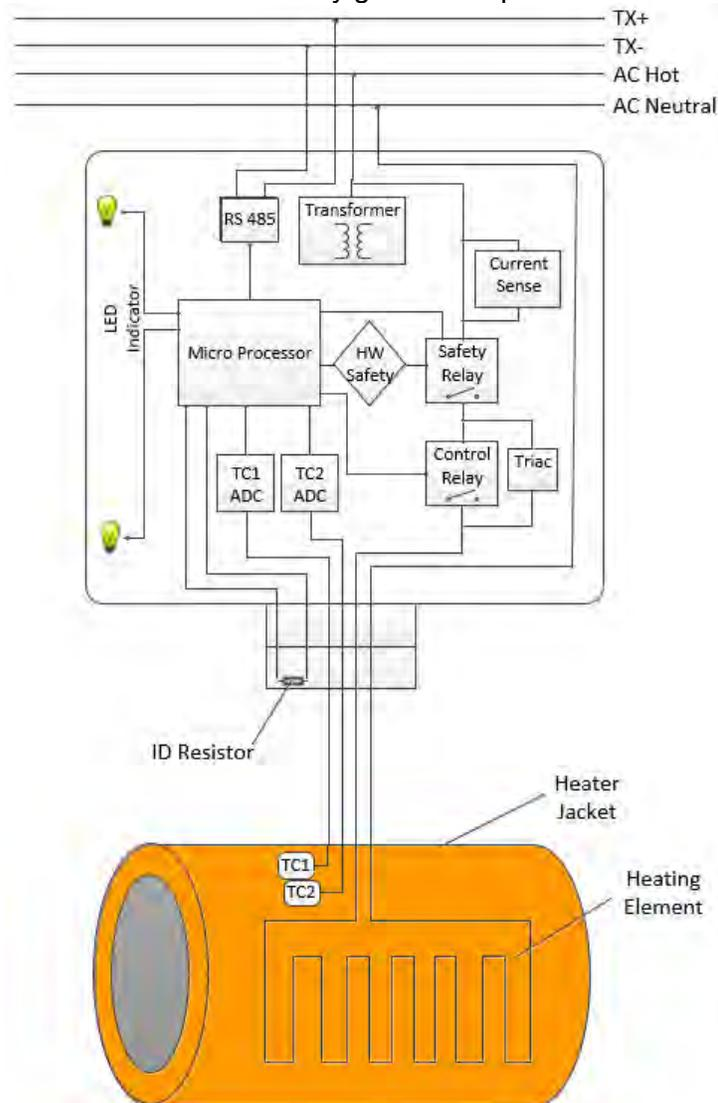

Figure 10: S49UL Controller Architecture
- Before allowing power to pass to the heater jacket the S49UL Controller identifies its input voltage then checks the ID resistor installed in the heater jacket connector, see Figure 10. If the heater jacket design voltage does not match the supply voltage the controller will post a voltage mismatch error (Status and Diagnostic LED's solid Yellow).
See Figure 10 and Table 4 for details on visual indications.